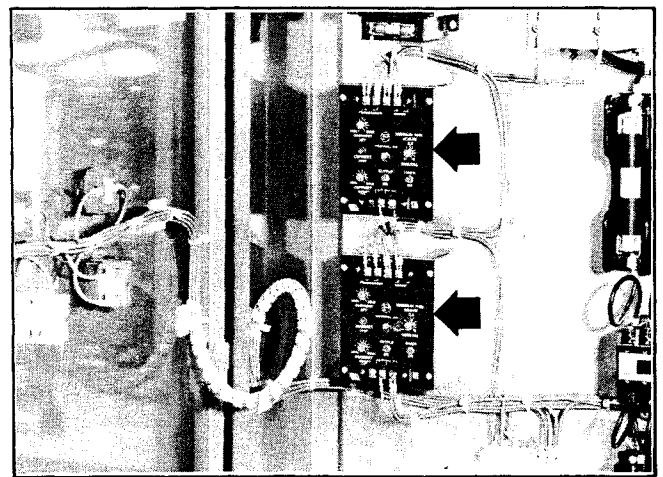

Figure 5. Current Sensing Relays for the Duplex Power Management option
Option #10 for a Duplex System consists of one (1) additional current monitor in the control panel for a total of two (2). (See Figure 5). For a triplex system three (3) current monitors are required.